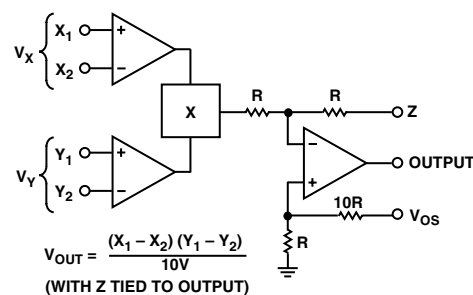
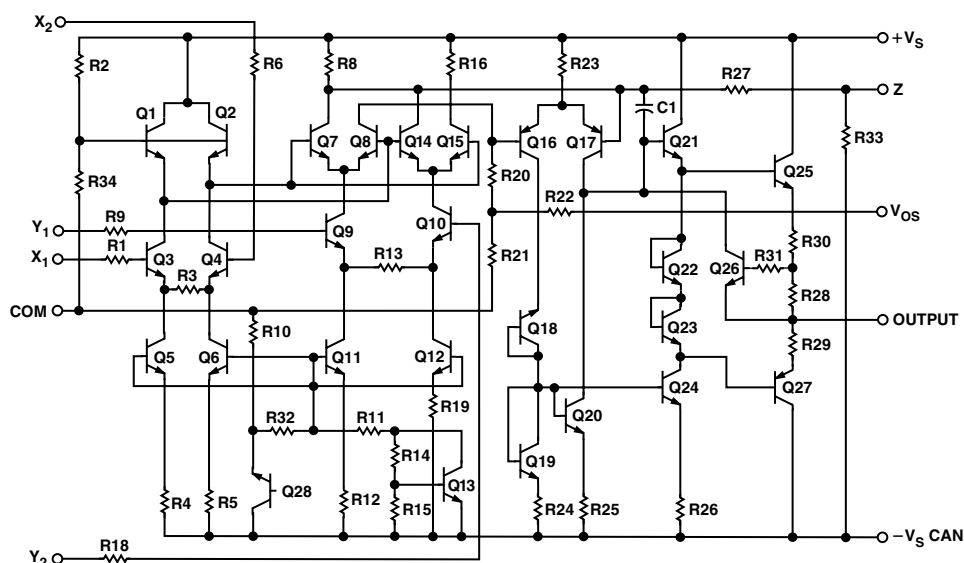
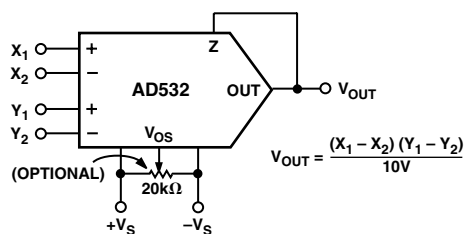

Figure 1. Functional Block Diagram
Figure 2. Schematic Diagram
Figure 11. Multiplier Connection
The functional block diagram for the AD532 is shown in Figure 1, and the complete schematic in Figure 2. In the multiplying and squaring modes, Z is connected to the output to close the feedback around the output op amp. (In the divide mode, it is used as an input terminal.)
For operation as a multiplier, the AD532 should be connected as shown in Figure 11. The inputs can be fed differentially to the X and Y inputs, or single-ended by simply grounding the unused input. Connect the inputs according to the desired polarity in the output. The Z terminal is tied to the output to close the feedback loop around the op amp (see Figure 1). The offset adjust V_{OS} is optional and is adjusted when both inputs are zero volts to obtain zero out, or to buck out other system offsets.
Figure 1 shows three views of a square flange: TOP VIEW, BOTTOM VIEW, and a side cross-section view. The TOP VIEW shows a square flange with a central square hole (SQ) and a maximum square size (MAX SQ) of 0.358 (9.09). The BOTTOM VIEW shows the flange with a central square hole (SQ) and a maximum square size (MAX SQ) of 0.358 (9.09). The side cross-section view shows the flange with a thickness of 0.100 (2.54) and a central square hole with a maximum square size (MAX SQ) of 0.358 (9.09). The drawings include various dimensions and tolerances in both inches and millimeters.